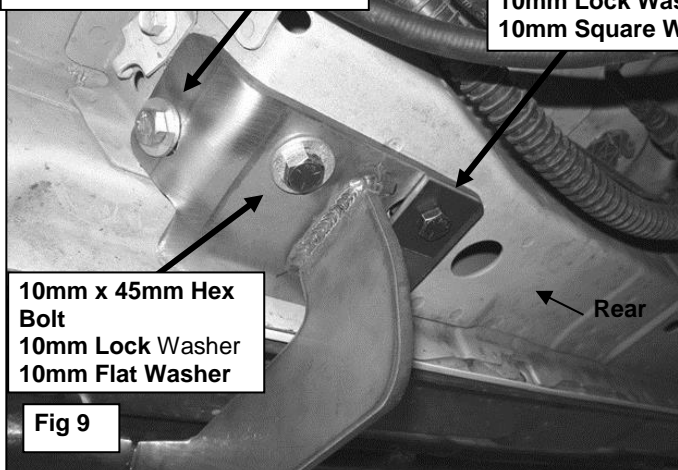

Fig 9
8. Position the driver side rear Mounting Bracket up to the vehicle. Insert (1) 10mm x 45mm Hex Bolt with (1) 10mm Flat Washer and (1) 10mm Lock Washer through the Mounting Bracket, small round hole and into the Double Nut Plate. Insert (1) 10mm x 45mm Hex Head Bolt, (1) 10mm Square Washer and (1) 10mm Lock Washer through the Mounting Bracket, large oval hole and into remaining nut in the Double Nut Plate, **(Figure 9)**. Do not tighten at this time.